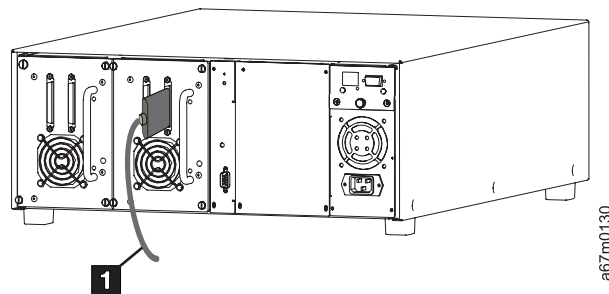

Figure 47. SCSI cable connected to library
1. Connect the SCSI cable to either of the SCSI connectors on the rear panel of the drive (see **1** in Figure 47).